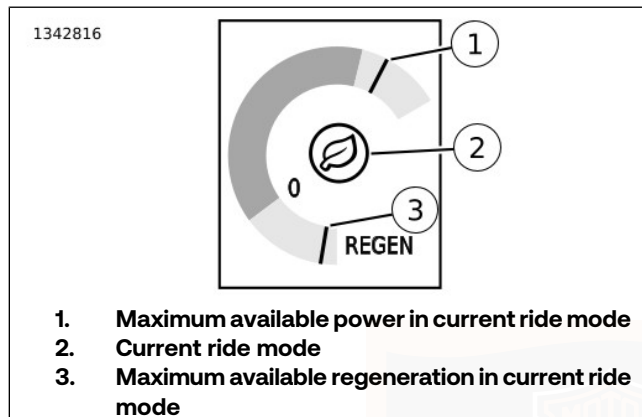

Figure 39. Power/Torque Widget
See Figure 39. The Power/Torque widget displays power and torque information related to the current ride mode. The Power/Torque widget displays the current ride mode (2),